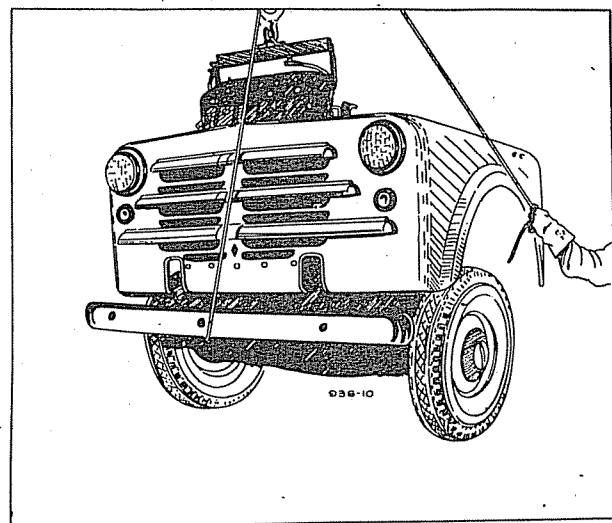

Fig. 8.—Removing Fender and Radiator Assembly.
- (1) Remove the hood and centre panel.
- (2) Drain water from the radiator.
- (3) Disconnect wiring at junction box.
- (4) Disconnect inlet and outlet radiator hoses.
- (5) Disconnect the fenders at rear and remove the radiator support bolts.
- (6) Remove fender and radiator as an assembly as shown in Figure 8.